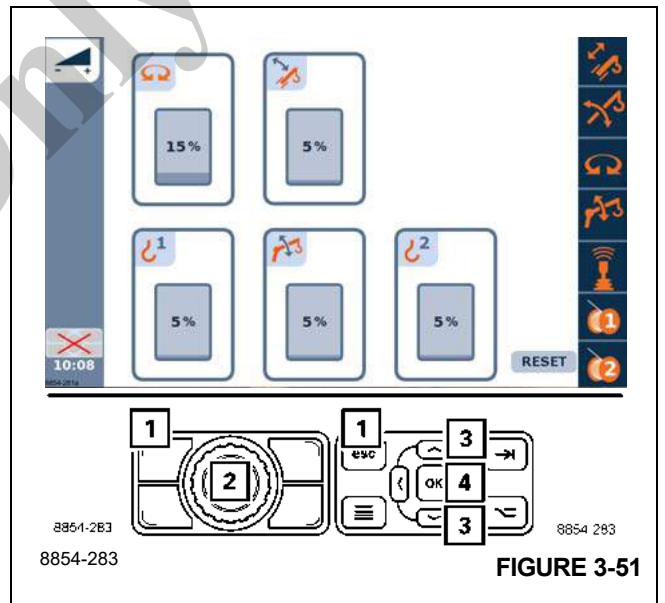

FIGURE 3-51
- Change the value using switch (2), (Figure 3-51) or the buttons (3), (Figure 3-51).
To cancel the input – press button (1), (Figure 3-51) once.
- Confirm the changed values – press switch (2), (Figure 3-51) or button (4), (Figure 3-51) once. The changed values for the power unit are applied.